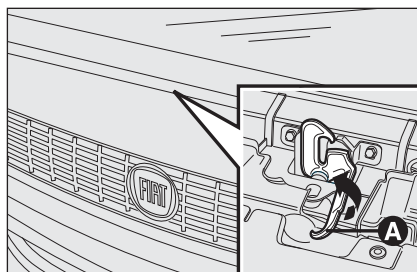

fig. 90
- ☐ pull catch **A-fig. 90** as shown in the diagram;